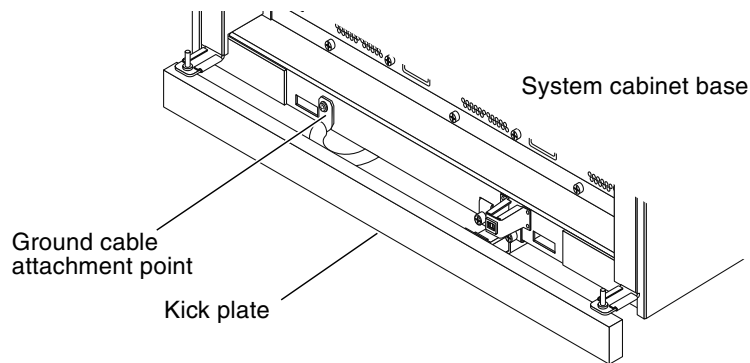

FIGURE 2-4 Ground Cable Attachment Point at System Cabinet
3. **Attach the ground cable to the system, behind the kick plate, at the bottom of the frame base as shown in FIGURE 2-4.**